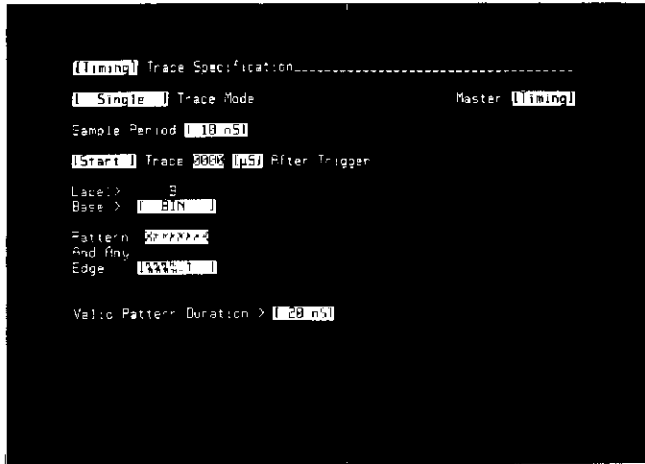

Figure 3-33. Timing Trace Specification With Master [Timing]
- 19 Press the TRACE key. See figure 3-33